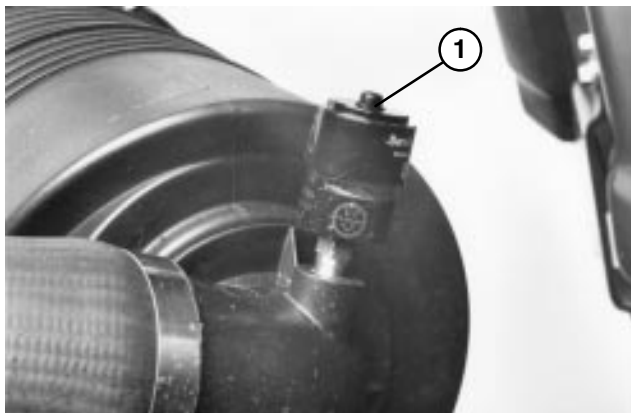

Figure 36
2. Service the air cleaner filters when ever air cleaner indicator (Fig. 36) shows red or every 400 hours (more frequently in extreme dusty or dirty conditions). Do not over service air filter.
8. Reset indicator (Fig. 36) if showing red.